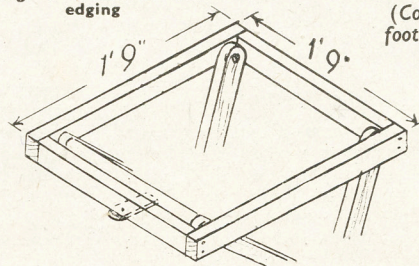

Fig. 2—Detail of top, and leg fixing
The frame for the table top, seen in Fig. 2, is made to the size given from strips of wood, $1\frac{1}{2}$ ins. wide and $\frac{1}{2}$ in. thick. Join the frame at its corners with glue and nails, or a halved joint, as preferred. The frame (A) is then fitted with brass screws, as in the diagram, to the extreme right-hand end of the top inside.